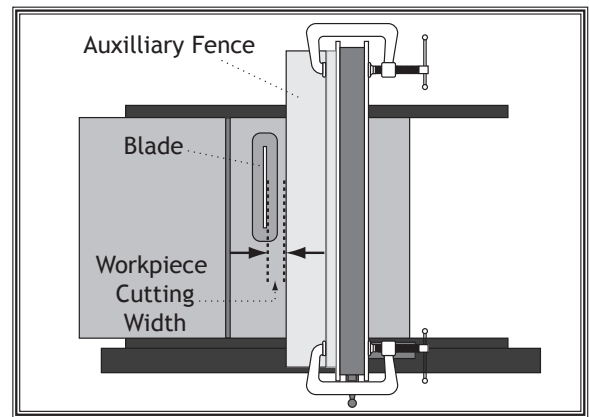

Figure 87. Adjusting ripping distance between blade and auxiliary fence.
1. Place the auxiliary fence on the table and clamp it to the fence at both ends, then adjust the distance between the auxiliary fence and the blade—this determines how wide the workpiece will be ripped (see **Figure 87**).